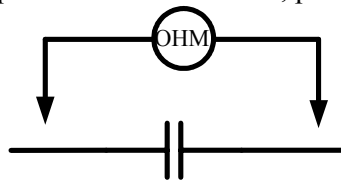

Figure 5.1: Circuit for a capacitor check.
- 1) Use a multimeter (select ohmmeter) to check the capacitor as shown in Figure 5.1. A good capacitor will not allow the current to flow, i.e. resistance is ∞ .